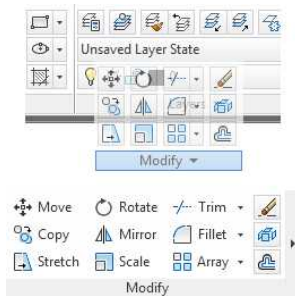

FIGURE 1.11: Drag the Modify panel from the Ribbon (top) to display it a floating panel (bottom).
7. Click the Modify panel title and drag the cursor toward the drawing area. The Modify panel becomes semitransparent, allowing you to place it inside the drawing area to become a floating panel (see Figure 1.11). Floating panels display whether their host tab is current or not. This feature can be helpful when quick access to tools on separate Ribbon tabs is needed simultaneously.